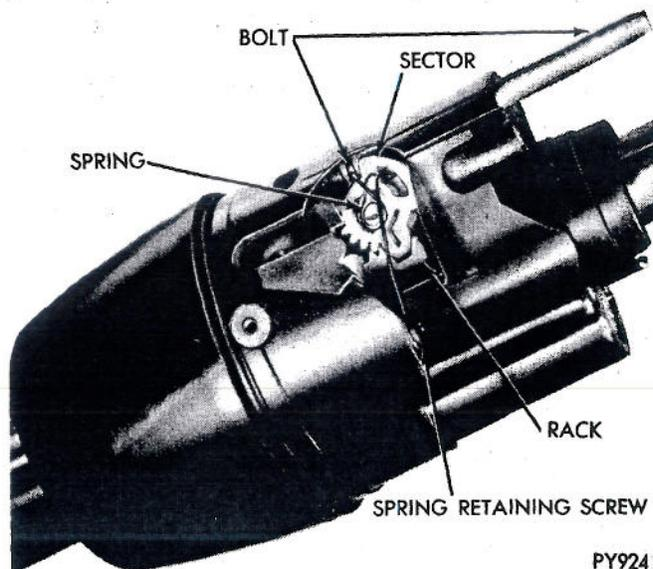
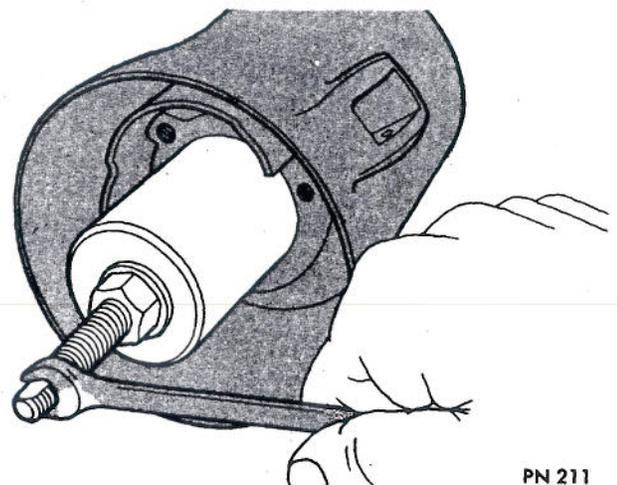

Fig. 18—Sector and Bolt Spring
Fig. 19—Installing Shift Tube
- (4) Install drive shaft in housing. Lightly tap sector onto the shaft far enough to install snap ring.
- (5) Install lock bolt and engage with sector cam surface.
- (6) Install rack and spring. Block tooth on rack to engage block tooth on sector. Install external tilt release lever.
(7) Install bolt spring and spring retaining screw. Tighten to 35 inch-pounds (Fig. 18).
(8) Install shift lever spring in bowl by winding up with pliers and pushing in. Slide bowl into jacket.
(9) Install wave washer and lock plate in place. Work lock plate into notches in jacket by tipping lock plate toward bowl hub at 12 o'clock position and under jacket opening. Slide lock plate into notches in jacket.
(10) Carefully install shift tube in lower end of jacket. Align key in tube with keyway in bowl and use Tool C-4119 to pull shift tube into bowl (Fig. 19).
(11) Install support by aligning "V" in support with "V" notch in jacket. Insert screws through support into lock plate. Tighten screws to 60 inch-pounds torque.
(12) Reinstall lower bearing, if removed, in the lower end of shift tube. Locate approximately 3/16 inch inside of tube (use a soap solution or rubber lubricant to ease installation).